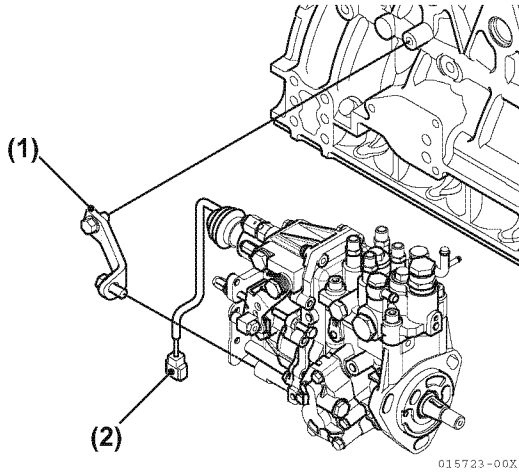

Figure 6-48
6. Reinstall the rear bracket (**Figure 6-48, (1)**) to the fuel injection pump. Tighten the rear support bolts.
7. Reconnect the throttle linkage and the stop solenoid connector (**Figure 6-48, (2)**).